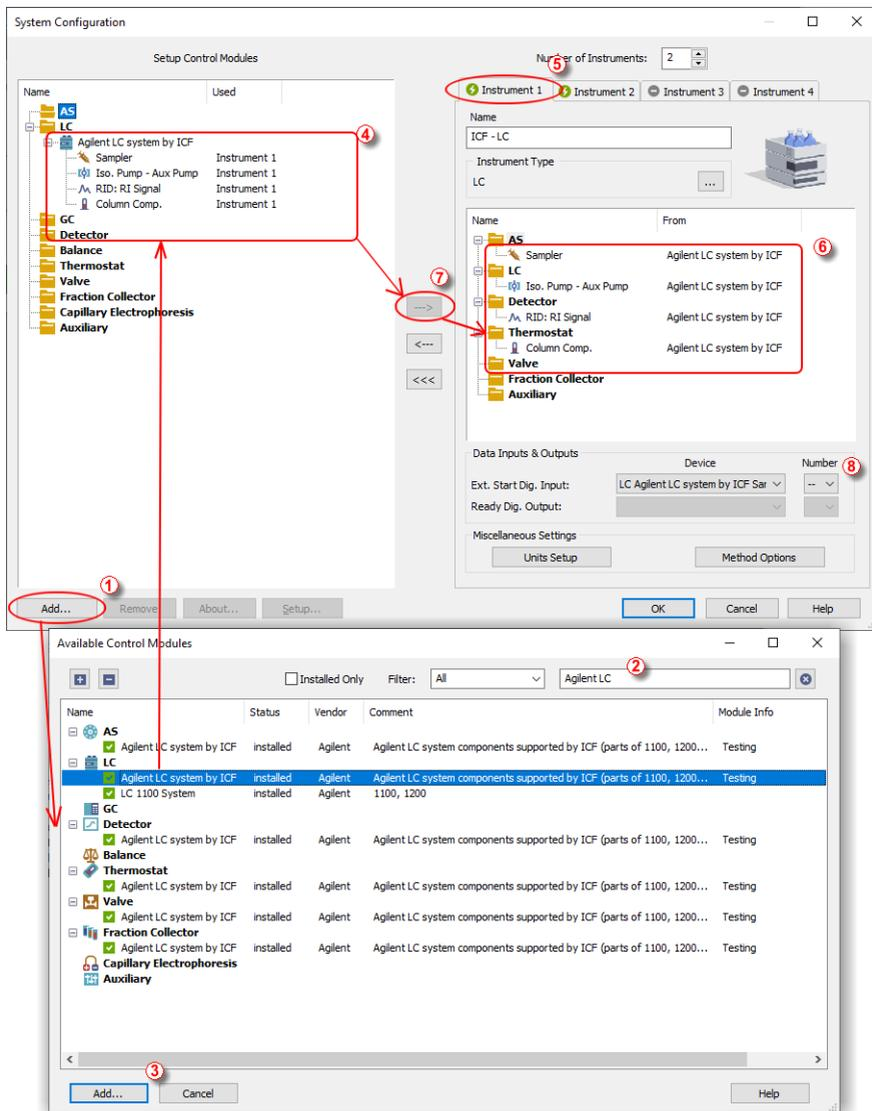

Fig 8: System Configuration
- Press the **Add** button ① (See **Fig 8** on pg 9.) to invoke the **Available Control Modules** dialog.
- You can specify the searching filter ② to simplify the finding of the driver.
- Select the **Agilent ICF for LC** item and press the **Add** ③ button.